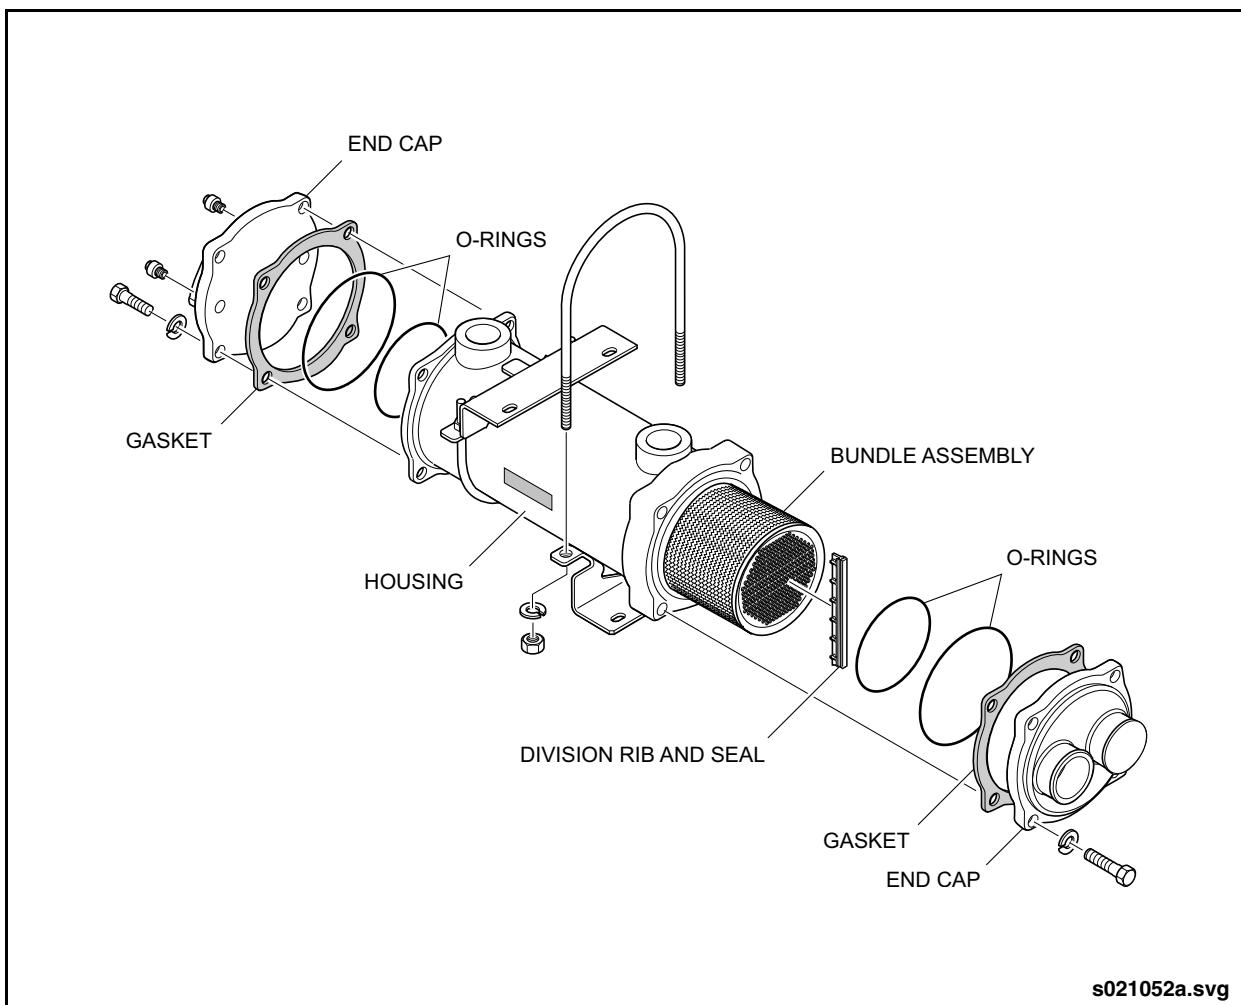

Fig. 6-5: Transmission Cooler Assembly
1. If the mounting brackets are being replaced, mark their positions and spacing relative to the housing before removing. See "Fig. 6-5: Transmission Cooler Assembly" on page 20.